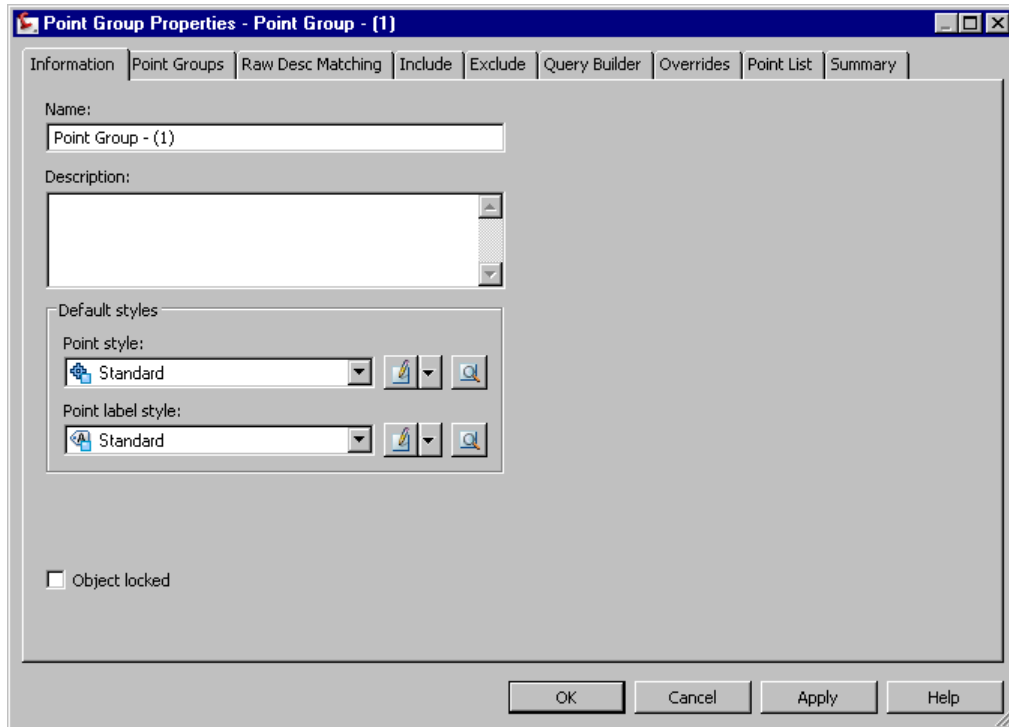

Figure 2-44 The **Point Group Properties - Point Group - (1)** dialog box
Point groups are created based on point properties. You can group points based on their point numbers, elevation, description, and so on. To create a point group, choose **Points > Create Point Group** from the menu bar; the **Point Group Properties - Point Group - (1)** dialog box will be displayed, as shown in Figure 2-44. The options in the dialog box are discussed next.